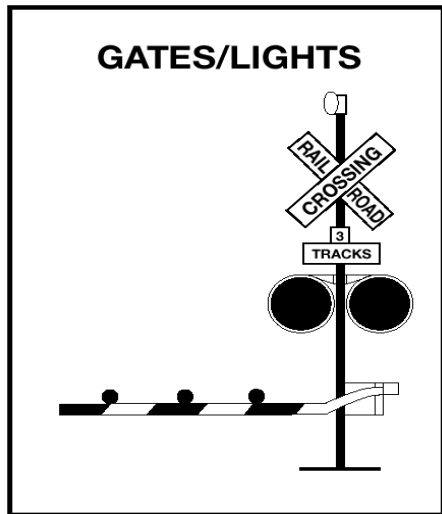

Figure 2.18
than one track, make sure all tracks are clear before crossing. See Figure 2.18.
**Gates.** Many railroad-highway crossings have gates with flashing red lights and bells. Stop when the lights begin to flash and before the gate lowers across the road lane. Remain stopped until the gates go up and the lights have stopped flashing. Proceed when it is safe. See Figure 2.18.